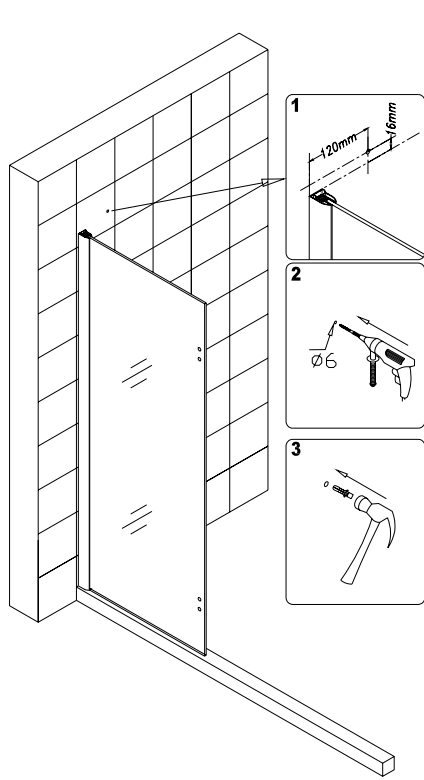

Fig 3
3. Refer to Fig 3 to mark the drill hole for the support bar. Make sure the mark is clear and visible and at the exact location as the support bar. Drill the hole and insert the wall anchor in the mark that you created. Tightly install the support bar bracket in the wall. Locate the **support bar (03)**; then locate the glass support bracket. Face the bracket inward. When the bar is in place make sure it's level with the glass and the wall, now fasten the glass support bracket to the glass. (fig 3 & 4).